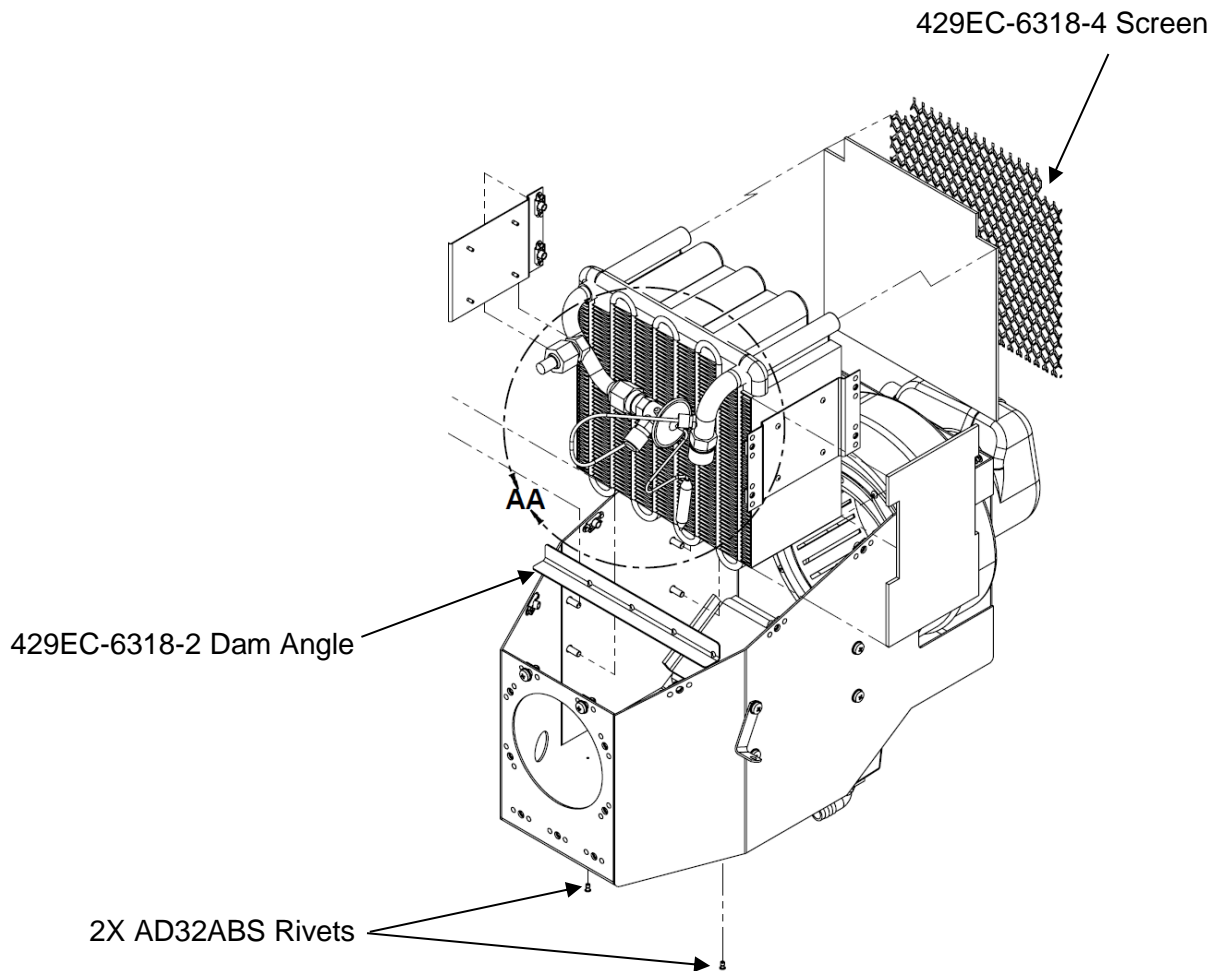

Figure 11: Exploded View of Evaporator
- 10) Install 429EC-6318-4 screen to coil ribbon with RTV103 black silicone rubber adhesive sealant. (Figure 11)